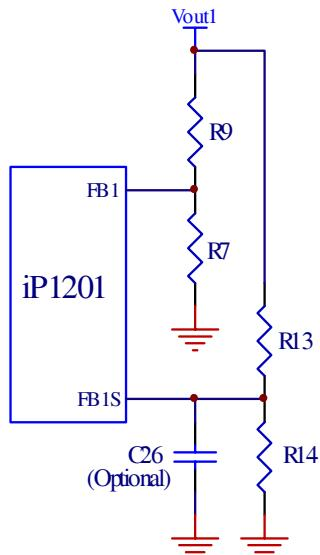

Fig. 19: Typical scheme for output voltage setting
Both outputs of the iP1201 will shut down if either one of the outputs experiences a voltage in the range of 115% of V_{OUT} . The overvoltage sense pins FB1s and FB2s are connected to the output through voltage dividers, R_{13} and R_{14} (Fig. 19), and the trip setpoints are programmed according to equation (1). Separate overvoltage sense pins FB1s and FB2s are provided to protect the power supply output if for some reason the main feedback loop is lost (for instance, loss of feedback resistors). If this redundancy is not required and if Type II control loop compensation scheme is utilized, FB1s and FB2s pins can be connected to FB1 and FB2 pins respectively. An optional 100pF capacitor (C26) is used for delay and filtering purposes.
When selecting output capacitors, it is important to consider the overshoot performance of the power supply. If the amount of capacitance is not adequate, then, when unloading the output, the magnitude of the overshoot due to stored inductor energy, and depending on the speed of the response of the control loop, can exceed the overvoltage trip threshold of the iP1201 and can cause undesirable shutdown of the output. The magnitude of the overshoot should be kept below $1.125V_{OUT}$. To prevent the overshoot from tripping the output a delay can be added by installing capacitor C26 as shown in Fig.19.
From Fig. 19 the transfer function $H(s)$ of the error amplifier is given by (9):